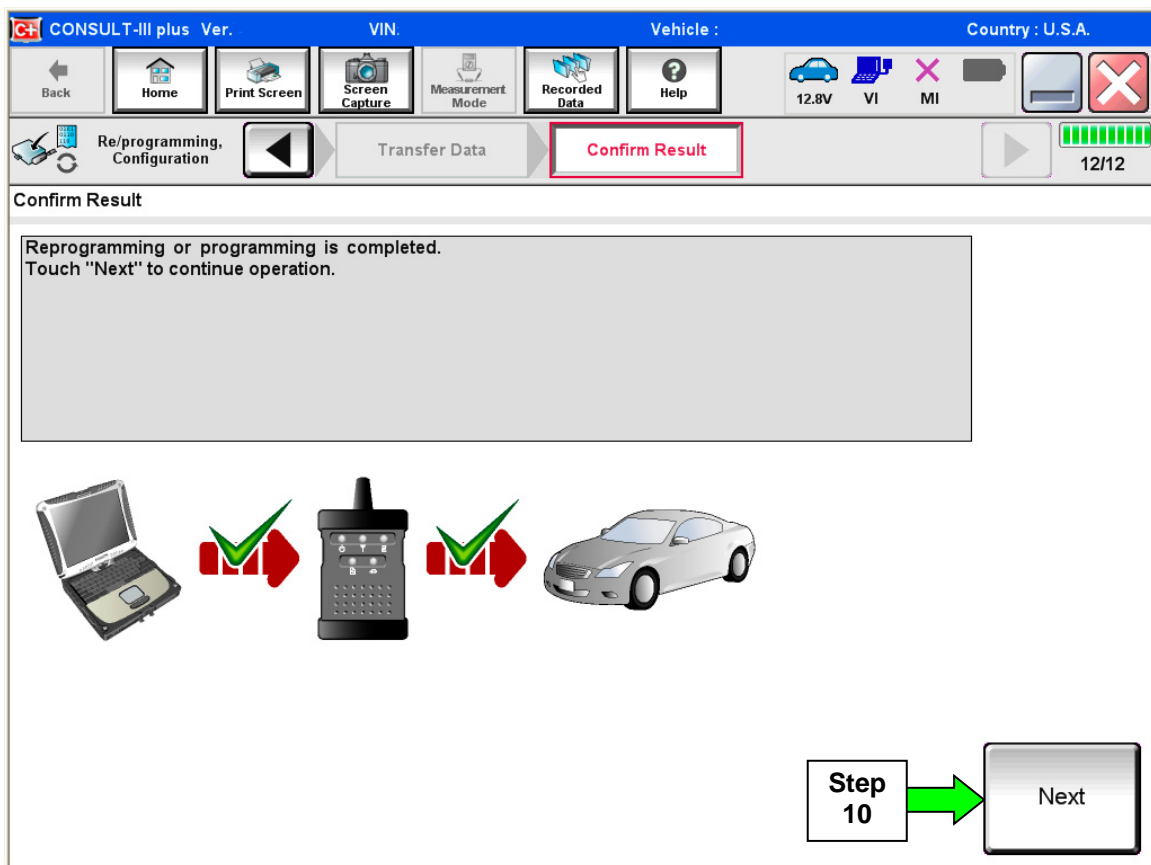

Figure 4
8. When the screen in Figure 4 displays, reprogramming is complete.
**NOTE:** If the screen in Figure 4 does not display (indicating that reprogramming did not complete), refer to the information on the next page.